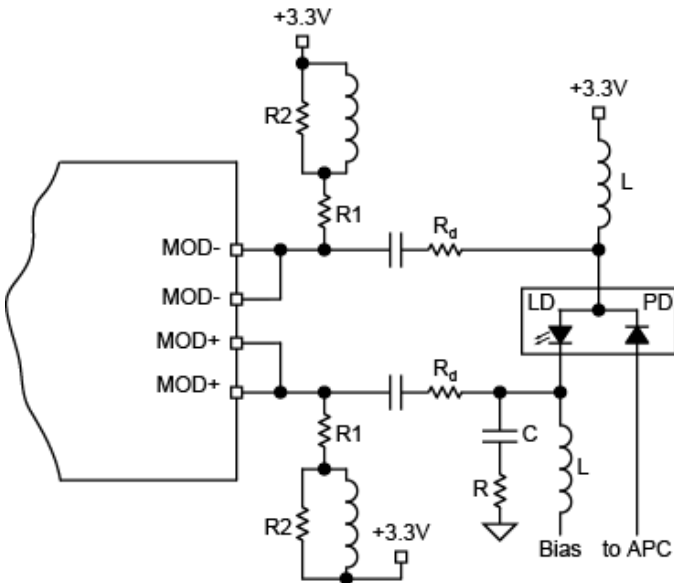

Figure 4. Laser AC-Coupled
On the other hand, the smaller the value of  $R_d$ , the higher is the overshoot/undershoot on the optical signal from the laser. In the circuit shown in Figure 4, the RC compensation network across the driver outputs (MOD+ and MOD-) allows the user  $R_d = 10\Omega$ . The optical eye diagrams at data rates of 1.25Gbps, shown in “Functional Characteristics” section, are all obtained with the same circuit using  $R_d = 10\Omega$ ,  $R_{Comp} = 100\Omega$ , and  $C_{Comp} = 3pF$ . The compensation network may change from one board to another and from one type of laser to another. An additional compensation network (RC) can be added at the laser cathode for further compensation and eye smoothing.
When trying to AC-couple the laser to the driver, the headroom of the driver is no longer a problem since it is DC isolated from the laser with the coupling capacitor. At the output, the headroom of the driver is determined by the pull-up network. In Figure 4, the modulation current out of the driver is split between the pull-up network and the laser. If, for example, the total pull-up resistor is twice the sum of the damping resistor and laser equivalent series resistance, then only two thirds (2/3) of the modulation current will be used by the laser. Therefore, to keep most of the modulation current going through the laser, the total pull-up resistor must be kept as high as possible. One solution involves using an inductor alone as pull-up, presenting a high impedance path for the modulation current and zero ohm ( $0\Omega$ ) path for the DC current offering headroom of the driver equal to  $V_{CC}$  and almost all the modulation current goes into the laser. The inductor alone will cause signal distortion, and, to improve this phenomenon, a combination of resistors and inductors can be used (as shown on Figure 4). In this case, the headroom of the driver is  $V_{CC} - R_1 \times \alpha I_{MOD}$ , where  $\alpha I_{MOD}$  is the portion of the modulation current that goes through the pull-up network.